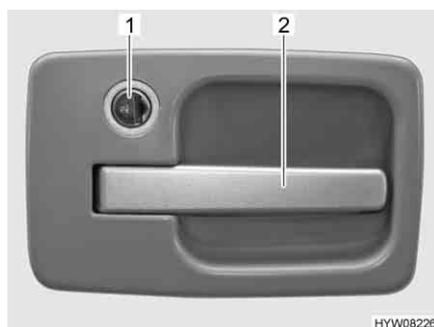

Fig. 29 Door lock of conversion door, outside
- Insert the key into the locking cylinder (Fig. 29,1) and turn towards the "U" symbol. The door lock is unlatched.
- Pull on the handle (Fig. 29,2). The door is open.
- Insert the key into the locking cylinder (Fig. 29,1) and turn towards the "🔒" symbol. The door lock is locked.